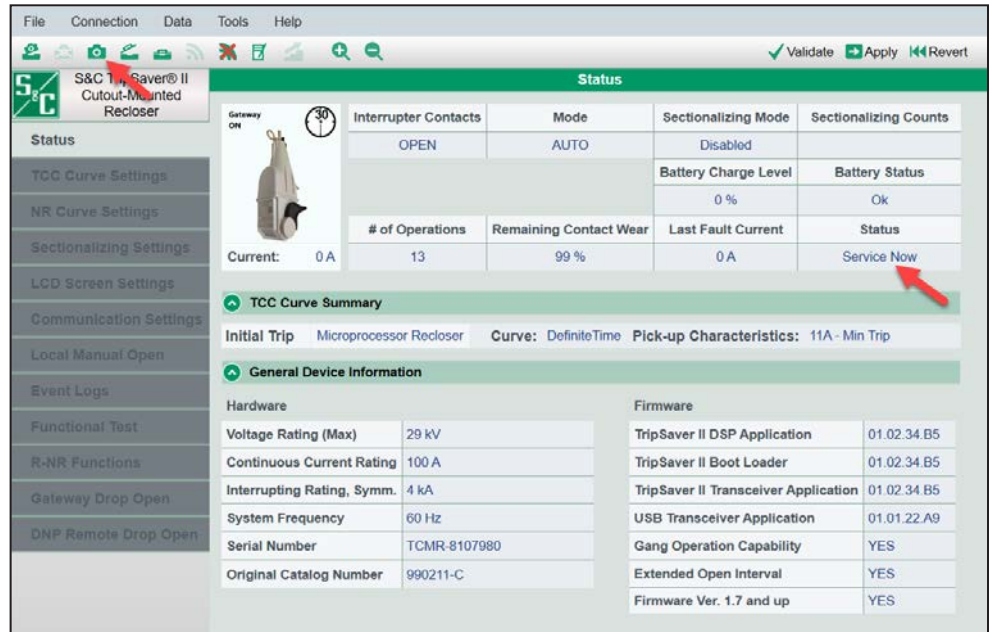

Figure 155. The Status screen showing the Service Now status and the location of the Save Snapshot icon.
- STEP 2.** Confirm the TripSaver II recloser is in the **Service Now** state by checking the *Status* screen. Then, check the **Remaining Contact Wear** field. If the remaining contact wear is 0%, the TripSaver II Cutout-Mounted Recloser should be taken out of service. If it is greater than 0%, continue with Step 3. See Figure 155 on page 113.
- STEP 3.** Create a snapshot file by clicking on the **Save Snapshot** icon. See Figure 155 on page 113. Contact S&C through the Global Support and Monitoring Center at 1-888-762-1100. The support technician will request the snapshot file via email.